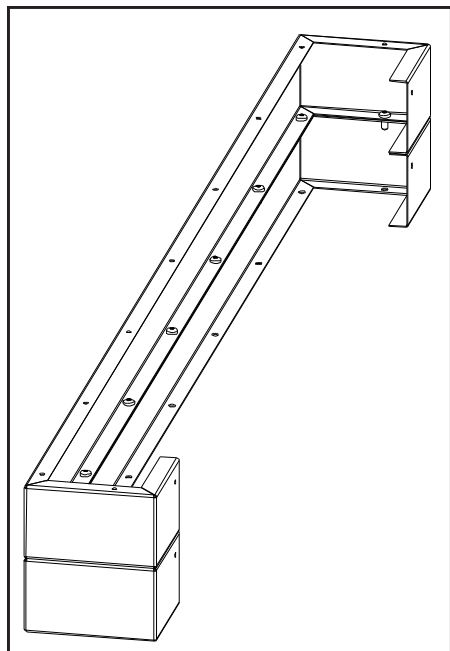

Figure 56: Combining 2 Base Shelf Riser.
2. When using more than one riser each level must be attached using nine (9) #8 T-20 screws provided (see Figure 56).